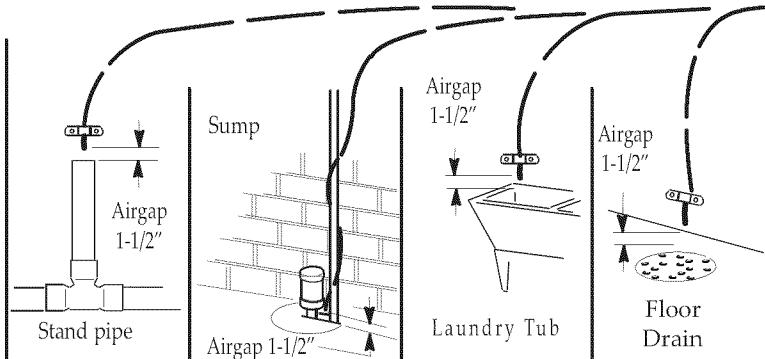

Figure 10
You can also run the drain tubing to an existing drain in the house. A floor drain, laundry tub, standpipe, sump, etc. are suitable drain points. See Figure 10. This type of drain is the preferred over the p-trap drain adapter. Check your local codes. Longer lengths of tubing (see parts list in back of manual) may be needed.
- Run the tubing to the drain point and secure at the end with a bracket (purchased locally). See Figure 10. Provide a 1-1/2" air gap between the end of the tube and the drain. See Figure 10.